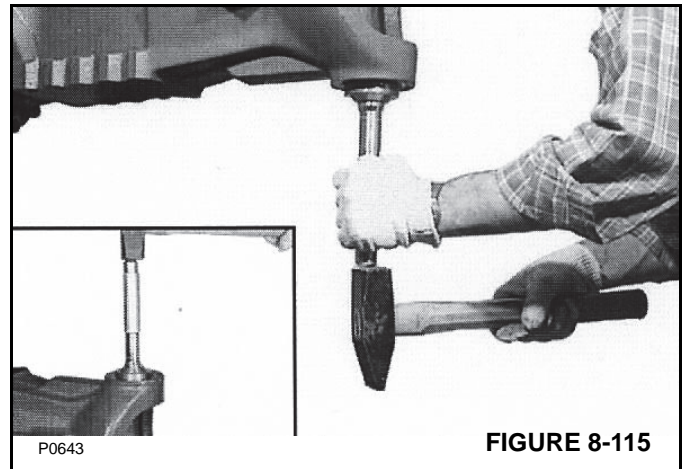

FIGURE 8-115
1. Install the upper king bushing on the axle beam with SPECIAL TOOL P/N 1901780 and a hammer (Figure 8-115).